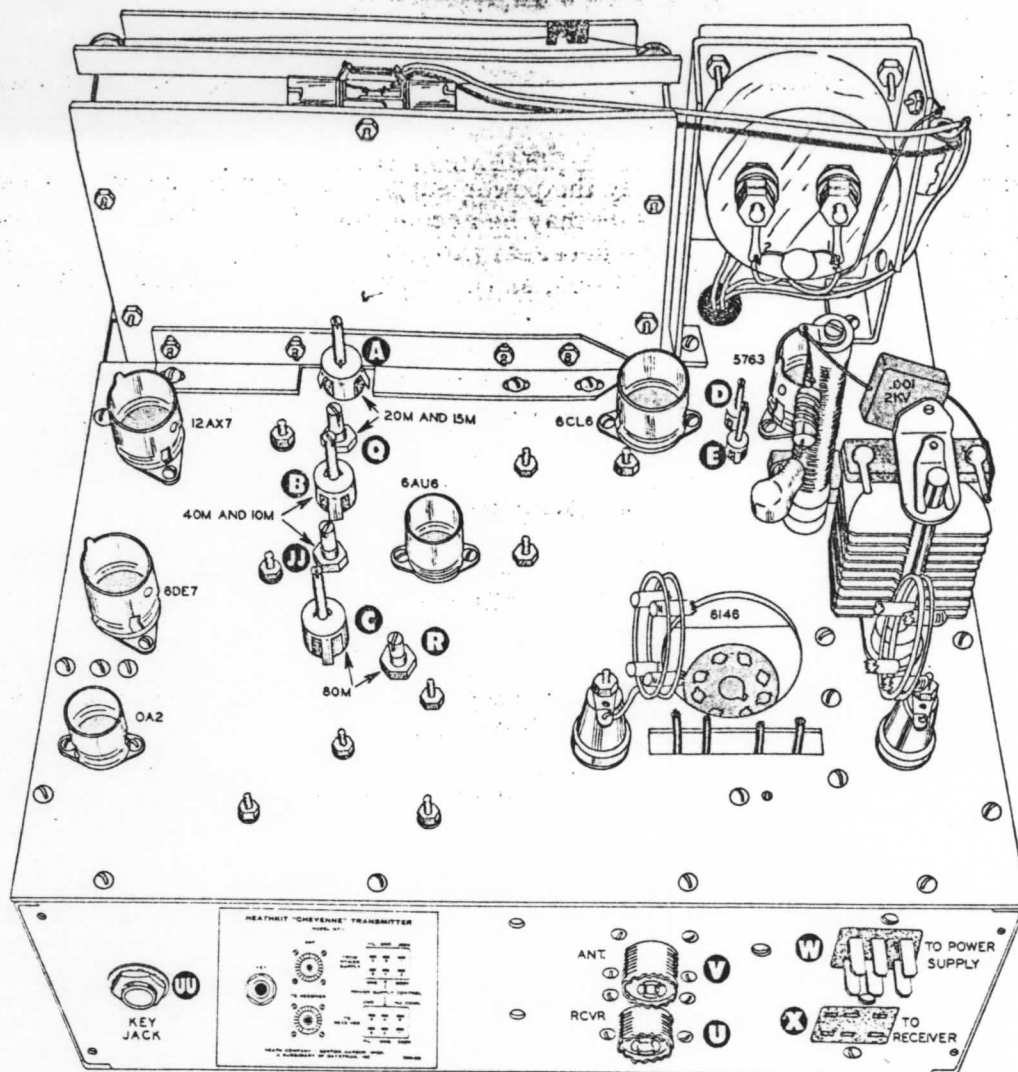

Figure 41
- (✓) Refer to Figure 41 and install all remaining tubes, the fuse and the pilot lights in their proper sockets. Use tube shields on all tubes except the 6146 final amplifier tube.
If the kit builder has access to a commercial frequency standard, an electronic counter of good quality, a surplus frequency standard of the LM or BC series, or a high quality communications receiver with a built-in crystal calibrator, such as the Heathkit "Mohawk", these are excellent for calibration. If a frequency meter is used, the frequency meter and the VFO signals can be beat against each other in the receiver. It will be necessary to calibrate only the 80, 20 and 10-meter bands. Since the 20 and 15-meter bands of the "Cheyenne" both use a common VFO switch position, as do the 40 and 10-meter bands, when the 20 and 10-meter bands are calibrated, the 40 and 15-meter bands are also calibrated automatically. Before beginning calibration, allow the Transmitter, frequency meter and the receiver to warm up for one half hour or more. During the calibration procedure, the drive control should be set at maximum grid current reading with the function and meter switch in GRID position. The spotting switch should be set to its ON position. If a frequency meter is used for calibration, the frequency meter signal and the VFO signal should be zero beat against each other in a receiver, with the BFO off. Under these conditions, the VFO is at the same frequency as the frequency meter. Aside from slight differences in measurement technique, the following procedure may be used for either method of calibration. Refer to Figure 41 on page 45 for location and identification of the various calibrating adjustments. If you should be unable to hear the VFO signal in the receiver, a piece of hookup wire may be run near the oscillator tube over to the receiver input terminal for better signal pickup.
NOTE: It should be noted that the trimmer capacitors R, Q and JJ are used to determine the frequency spread covered on the dial, while the coil slugs A, B and C in Figure 41 are used to set a definite frequency point in the dial.
After VFO calibration is complete, the adjustment of the buffer coils may be accomplished. Set the band switch to the 10-meter position and the VFO dial to the middle of the band, approximately 28.8 mc. Depress the microphone button, tuning the final to resonance and adjusting the loading to maximum plate current. Advance the drive control until a small amount of grid current reading can be obtained. Adjust slug D, as shown in Figure 41, for a maximum grid current reading. Once again, do not exceed 3 ma for more than an instant. Now switch the band switch to the 15-meter position and set the VFO dial to the middle of the band or approximately 21.3 mc. Peak the drive once again at a low reading and adjust slug E, Figure 41, for a maximum reading on the meter. This completes testing, adjustment and calibration of your MT-1 Mobile Transmitter.